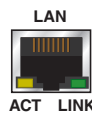

Figure 10. RJ-45 Ethernet Connector
- ⑪ **Reset button and LED** — The Reset button is used to reset the SME 100. The Reset LED provides the status of the reset and is used with the Reset button during a reset of the SME 100. The SME 100 has four reset modes. For information on using the reset button on the SME 100, see the "Resetting the SME 100 Using the Rear Panel" section on page 15.
- ⑫ **RJ-45 Ethernet connector** — Connect one end of an RJ-45 cable to the Ethernet connector on the SME 100 (see figure 10). Connect the other end of the RJ-45 cable to a router or switch to connect the SME 100 to a network.